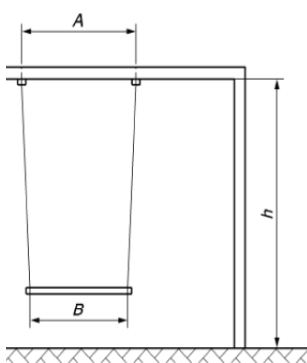

figure 1
13. The distance between the suspension points along the crossbeam equals or is more than the distance between the junction points of the swing element, plus 4% of the distance between the ground and beam (figure 1)